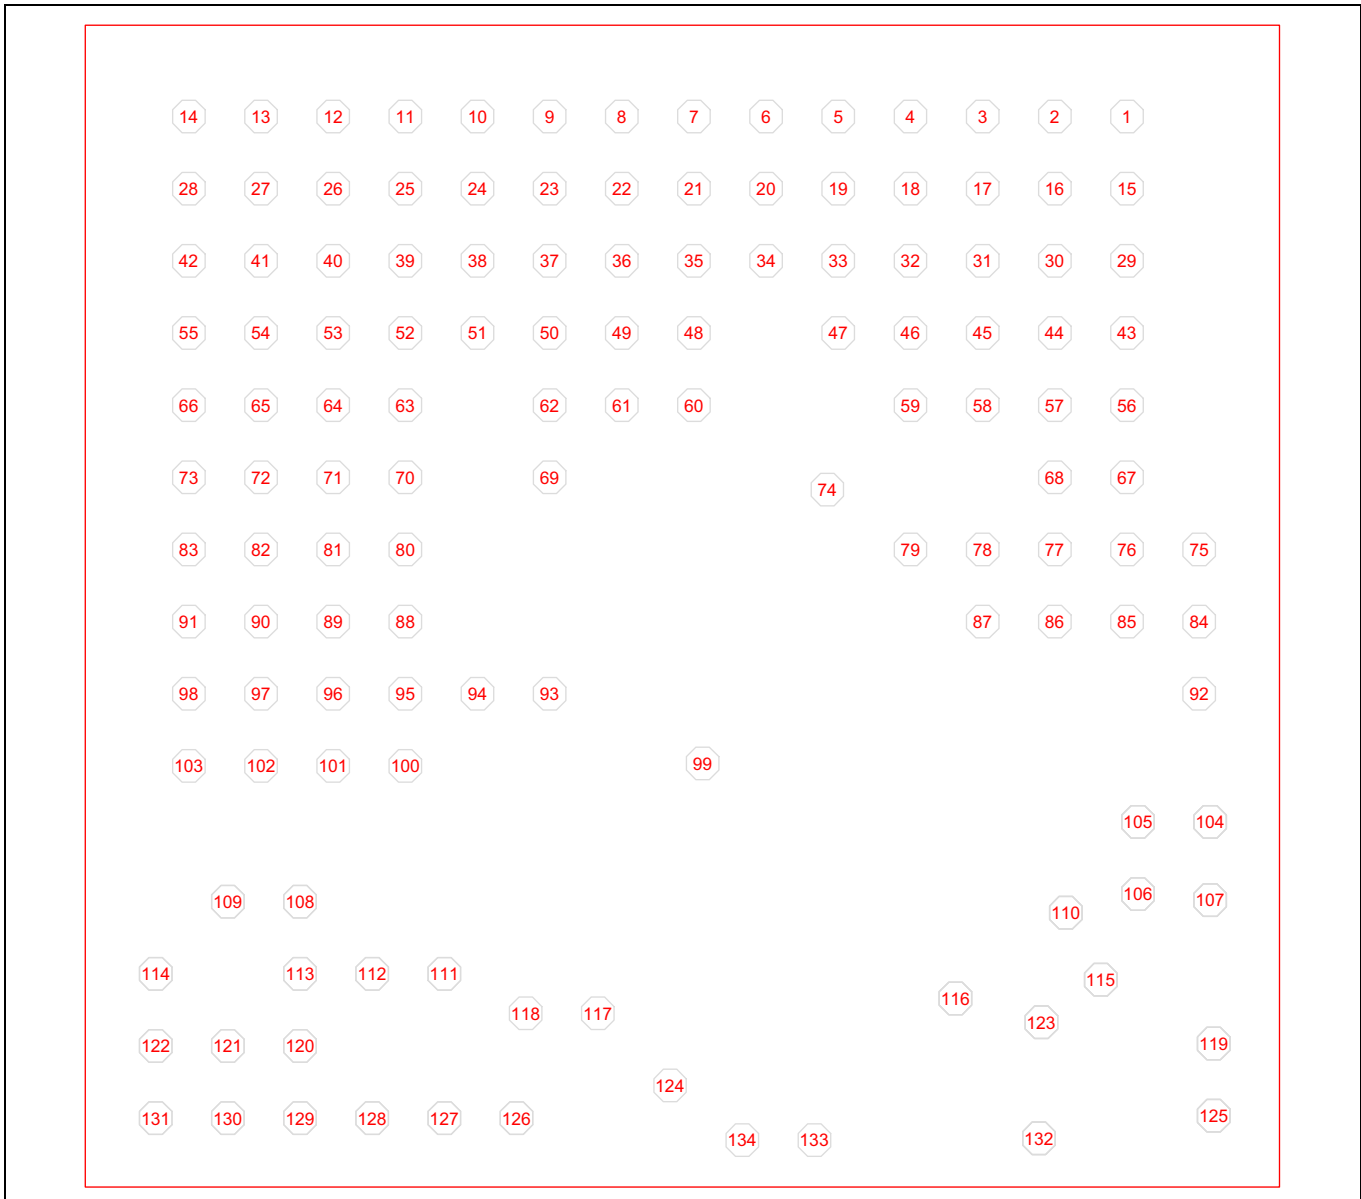

Figure 7 WLCSP ball map
CYW20719 WLCSP package is shown in Figure 7.
- 9. Figure 7 shows the bottom view of the WLCSP package (Bumps facing up).